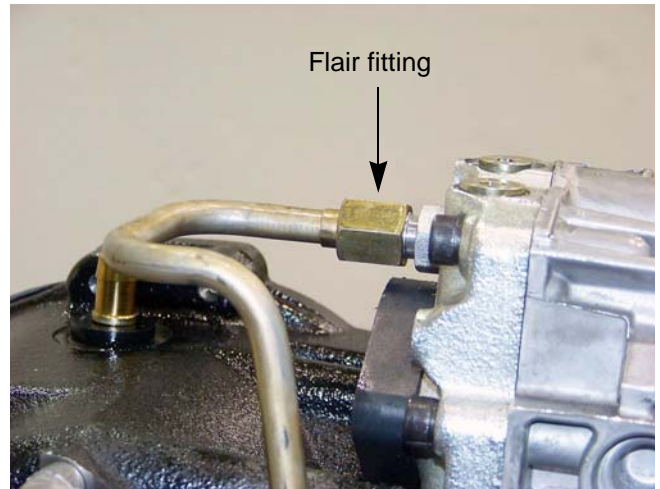

Figure 5.32
3. Disconnect the hydraulic pick up tube to the back of the BDU-10L using two 11/16 in. wrenches. See Figure 5.32.